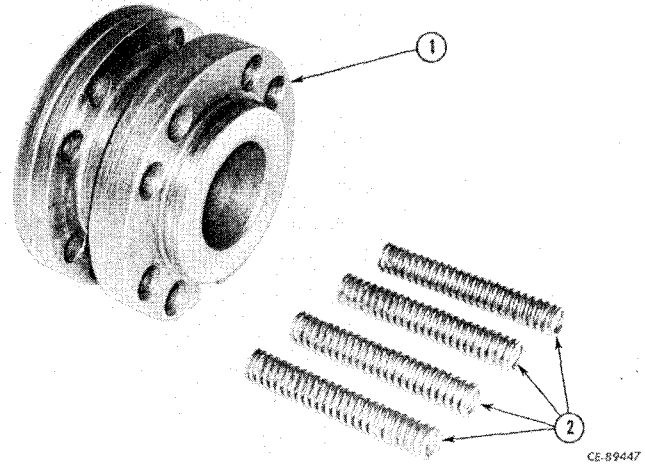

Figure 8-19
Slide springs (2, Fig. 8-19) out of actuator (1) noting the holes they were removed from. A simple diagram will aid in remembering the spring installation position.